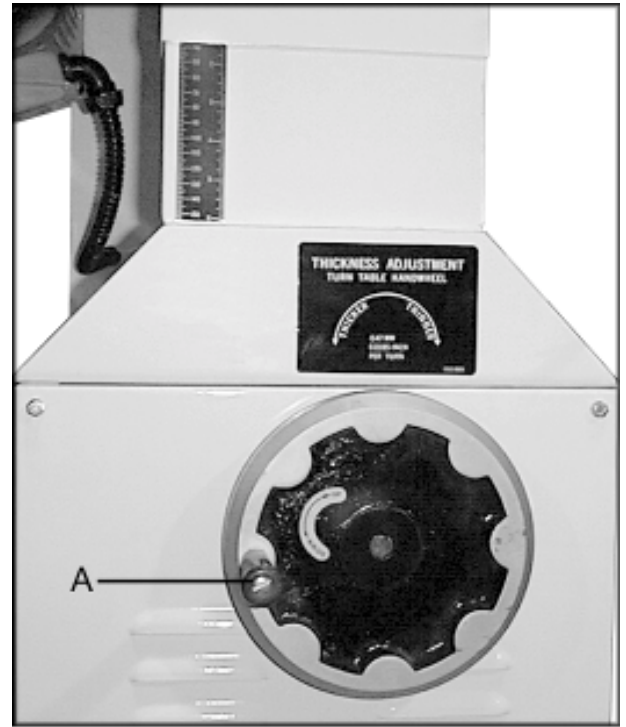

FIGURE 9
5. Rotate the main handwheel (A), on the lower cabinet, to raise or lower the table. See Figure 9. Refer to the scale for the desired setting. The recommended depth of sanding is .0164" or two revolutions of the handwheel. The table can be locked in place by the lever at the base of the column.